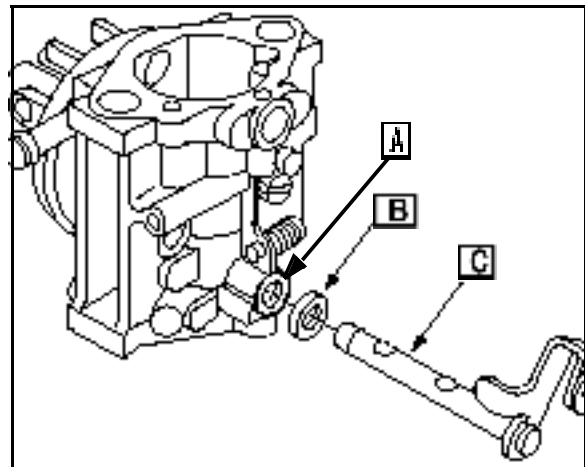

Fig. 106
- Install throttle shaft seal (A) to carburetor body. Install seal with grooved side out.
- Place plastic throttle shaft seal (B) on throttle shaft ([C] Fig. 106).